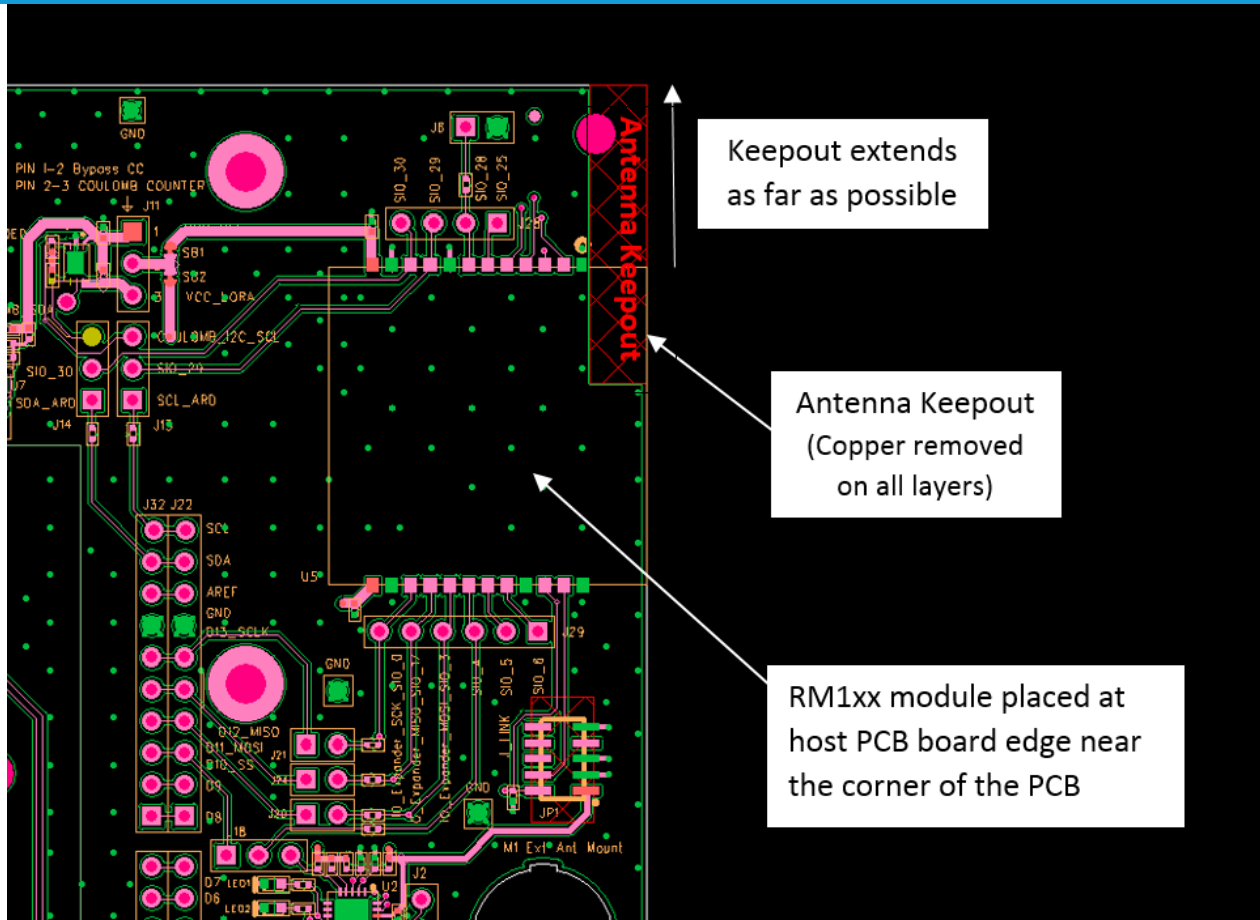

Figure 9: Antenna keepout on DVK-RM1xx PCB (shown in red) with RM1xx module placed near the corner.
- The RM1xx development board has the RM1xx module on the edge of the board (not in the corner). The antenna keep-out area is defined by the RM1xx development board which was used for module development (and antenna performance evaluation) is shown in Figure 9, where the antenna keep-out area is composed of PCB dielectric (no copper) sitting under the RM1xx antenna.
- The antenna-keep-out defined in Host PCB Land Pattern and Antenna Keepout applies when the RM1xx is placed in the corner of the host PCB. When RM1xx-SM cannot be placed as such, it must be placed on the edge of the host PCB and the antenna keep out must be observed. An example is shown in Figure 9.